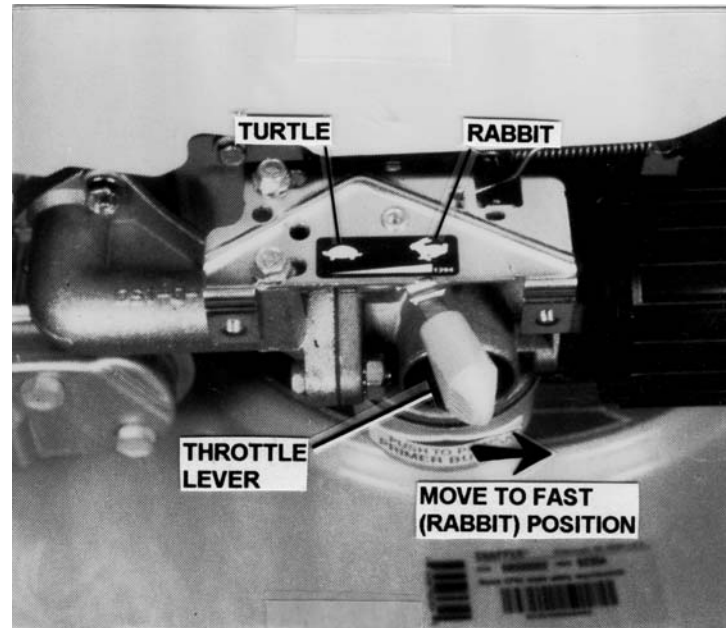

FIGURE 7
1. Move the throttle lever, which is located on the engine, to the rabbit or fast position. See Figure 7.
1. Move the throttle lever, which is located on the engine, to the rabbit or fast position. Refer to Figure 7.